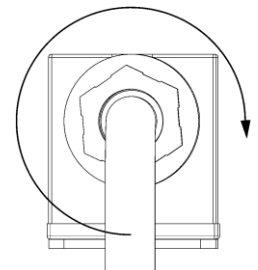

Figure 6
- Press the inner portion until it locks in the socket pos. 2. After introducing the fastening bolt, tighten the cable screw gland (Fig. 6).
- Plug socket no. 2 into connector plug pos. 1 and refasten the fastening bolt pos. 3.